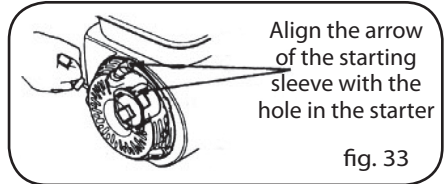

fig. 33
3. Pull the starting rope slowly until feel a slight anti-action, and then keep pulling so as to align the arrow of the starting sleeve with the hole in the starter. At this time, both the inlet and outlet valves are closed so to help prevent the engine inside from rusting (Fig. 33).